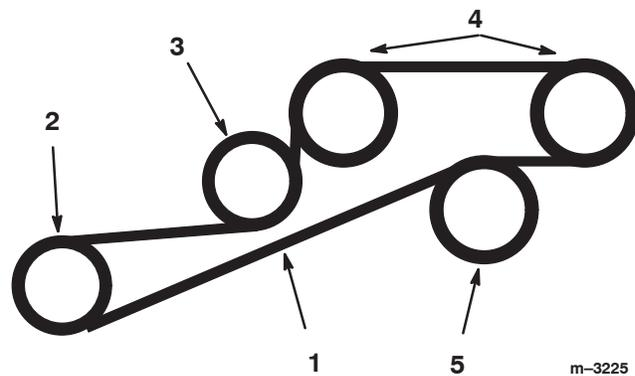

Figure 92
2. Push spring loaded idler down and remove traction belt from the engine, fixed idler and hydro pump pulleys (Fig. 92). Remove belt over clutch.
3. Install new belt over clutch and around engine, fixed idler and hydro pump pulleys (Fig. 92).
4. Push spring loaded idler down and align below traction belt. Release pressure on spring loaded idler (Fig. 92).